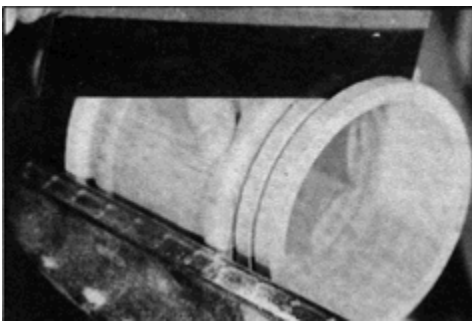

Figure 12
36. Position the tool rest to the outside of the blank and square the end (see **Figure 12**).